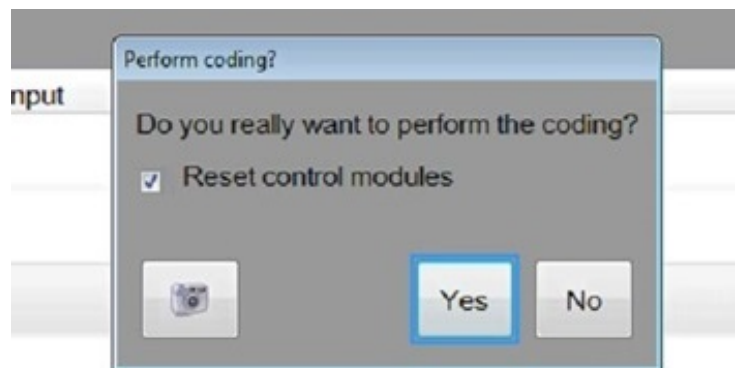

Figure 7. Coding pop-up screen
11. A pop-up menu with the message: “Do you really want to perform the coding?” appears (Figure 7). Select “Yes” to continue.